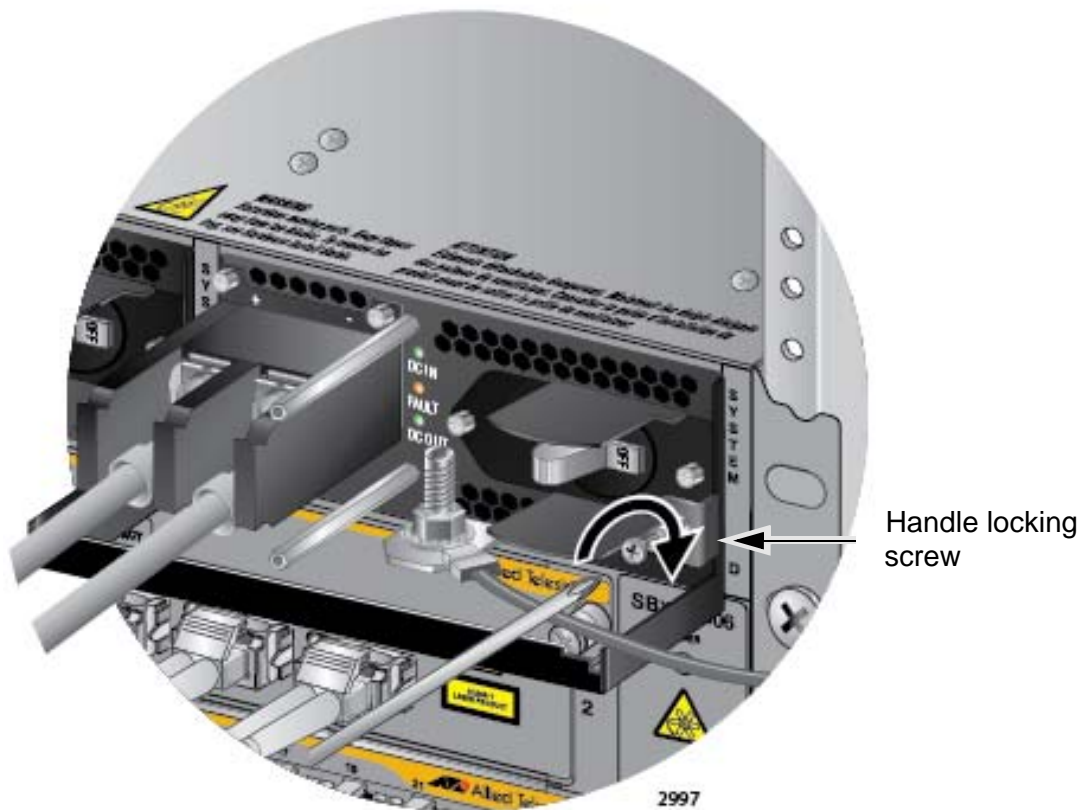

Figure 122. Tightening the Handle Locking Screw
8. With a #2 Phillips-head screwdriver, tighten the handle locking screw to secure the power supply to the chassis. See Figure 122 on page 182.